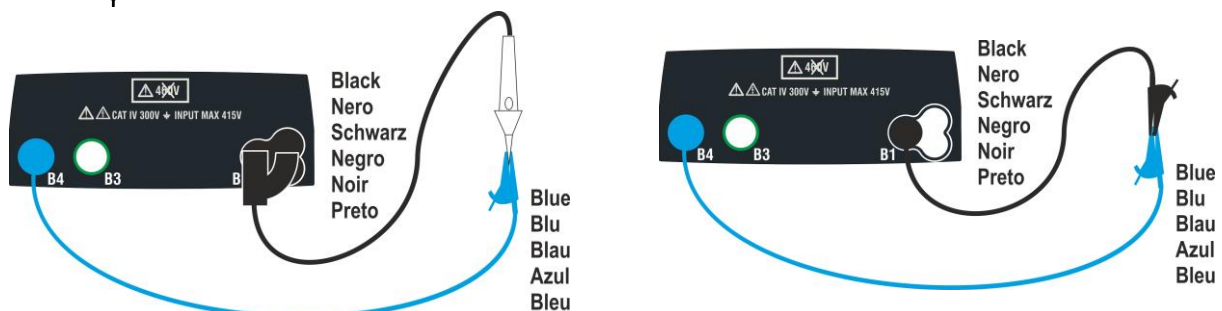

Fig. 12: Compensation of single cables and remote switch probe resistance
- Connect the alligator clips and/or test leads and/or remote switch probe to the conductor to be tested as indicated in Fig. 12.